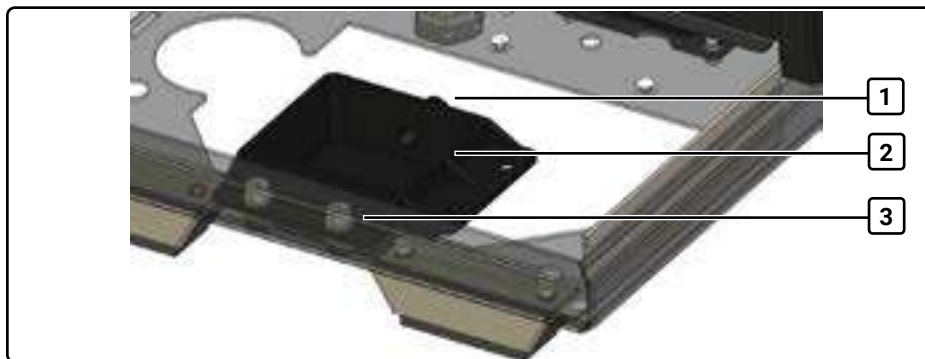

Fig. 6 Drain pan, installed
1. Fasten the drain pan (2, Fig. 6) to the holder on the drip tray using the fastening screws and washers (3, Fig. 6).
2. Connect the wastewater hose to the connection (1, Fig. 6) and secure with the hose clamp.